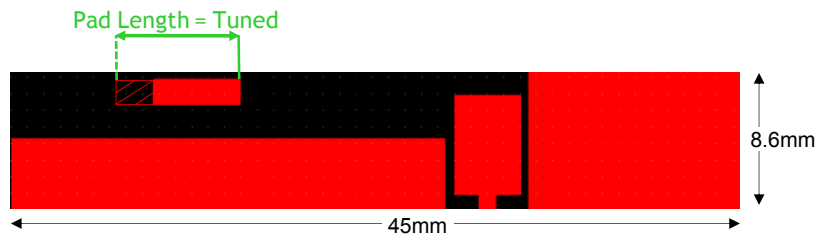

Figure 8
- bg center frequency can be tuned by changing the pad length (Figure 8 at right)